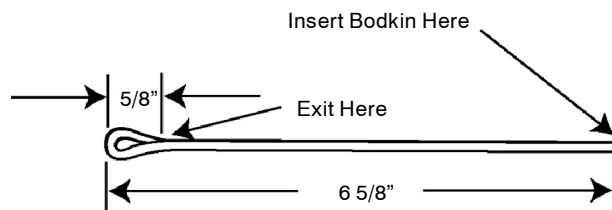

Figure 7. Fabrication of Closing Loop
f. Draw the other end of Spectra back through center of cord. Forming a 5/8-in. loop (Figure 7).